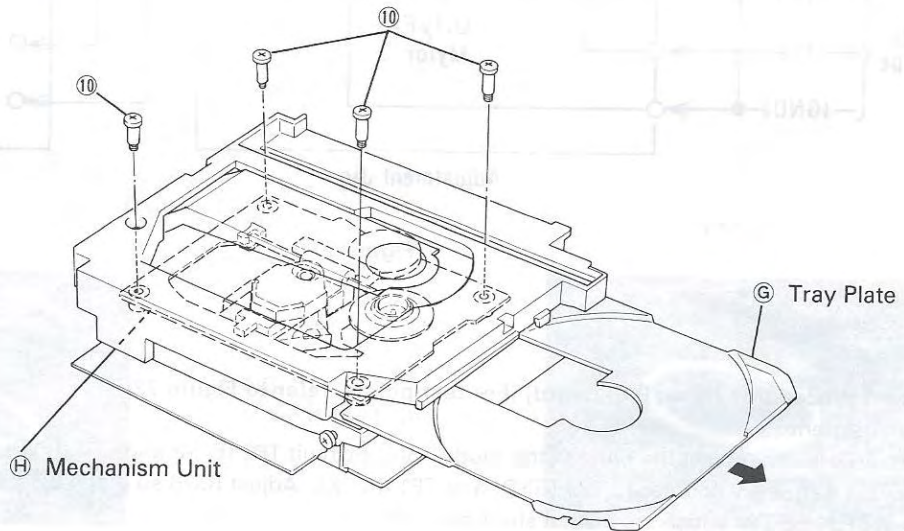

Figure 18
4. Remove tray plate ⑩. (Figure 18)
5. Remove four screws ⑪ from mechanism unit ⑨, and mechanism unit will be removed. (Figures 18 and 19)